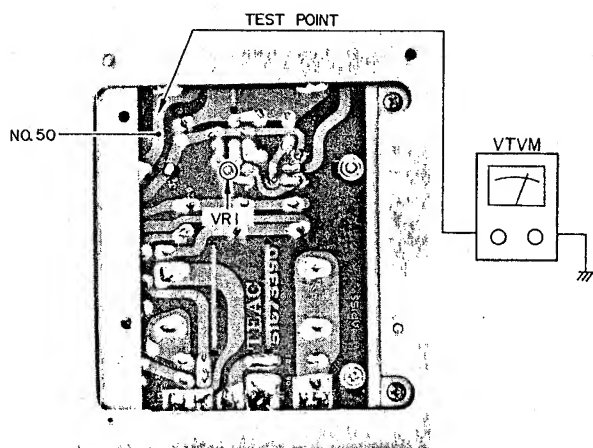

Fig. 8-2 +23 V DC Test Point
3. Connect a VTVM between the Power Supply P.C.B. Test Point No. 50 and ground. See Fig. 8-2 below.